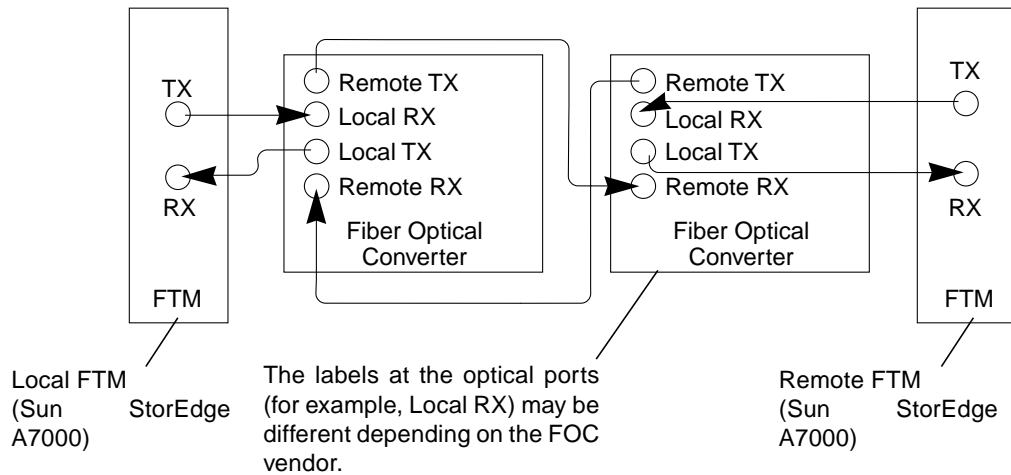

FIGURE 5-13 Connections Between the FTM Card and Fiber-optic Converters
FIGURE 5-13 shows the connections between the FTM card and FOC.
1. **Make all connections as shown in** FIGURE 5-13.